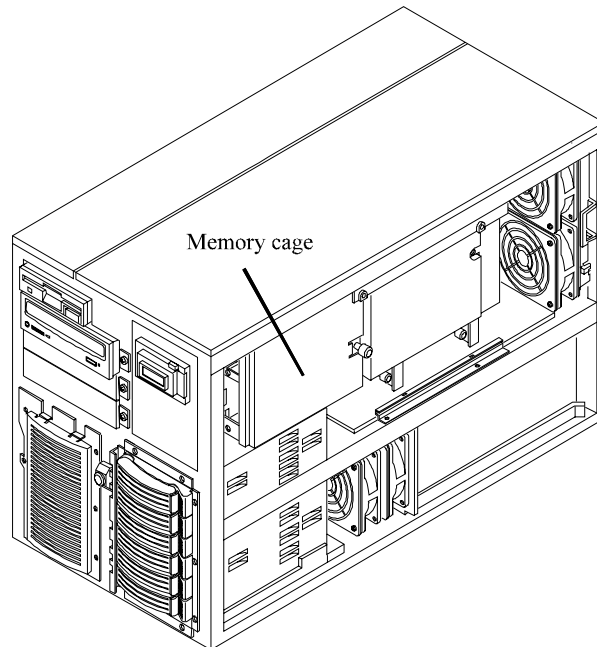

Figure 5-2. Memory Cage
3. Loosen the memory cage screw, and swing the cover open (see Figure 5-2).